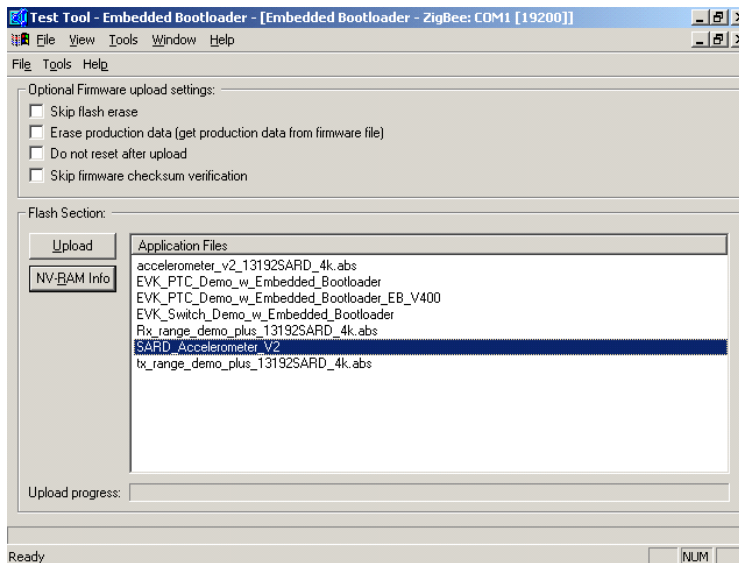

Figure 3-5. Test Tool Window (Bootloader Application Select)
12. As shown in Figure 3-5, select the desired application for flashing from the Application Files menu and click the Upload button.